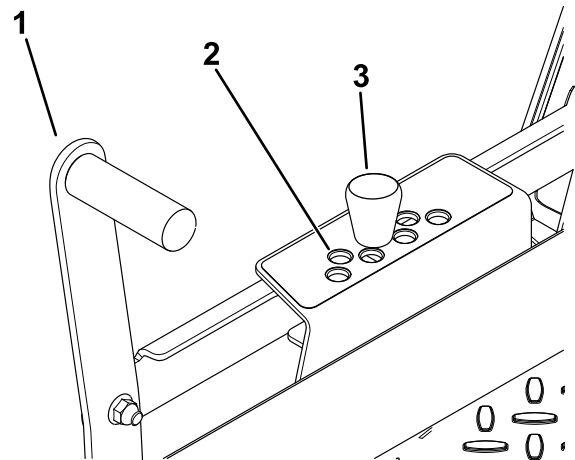

Figure 23
2. To adjust, remove the pin from the height-of-cut bracket (Figure 23).
3. Select a hole in the height-of-cut system corresponding to the desired height of cut and insert the pin (Figure 23).